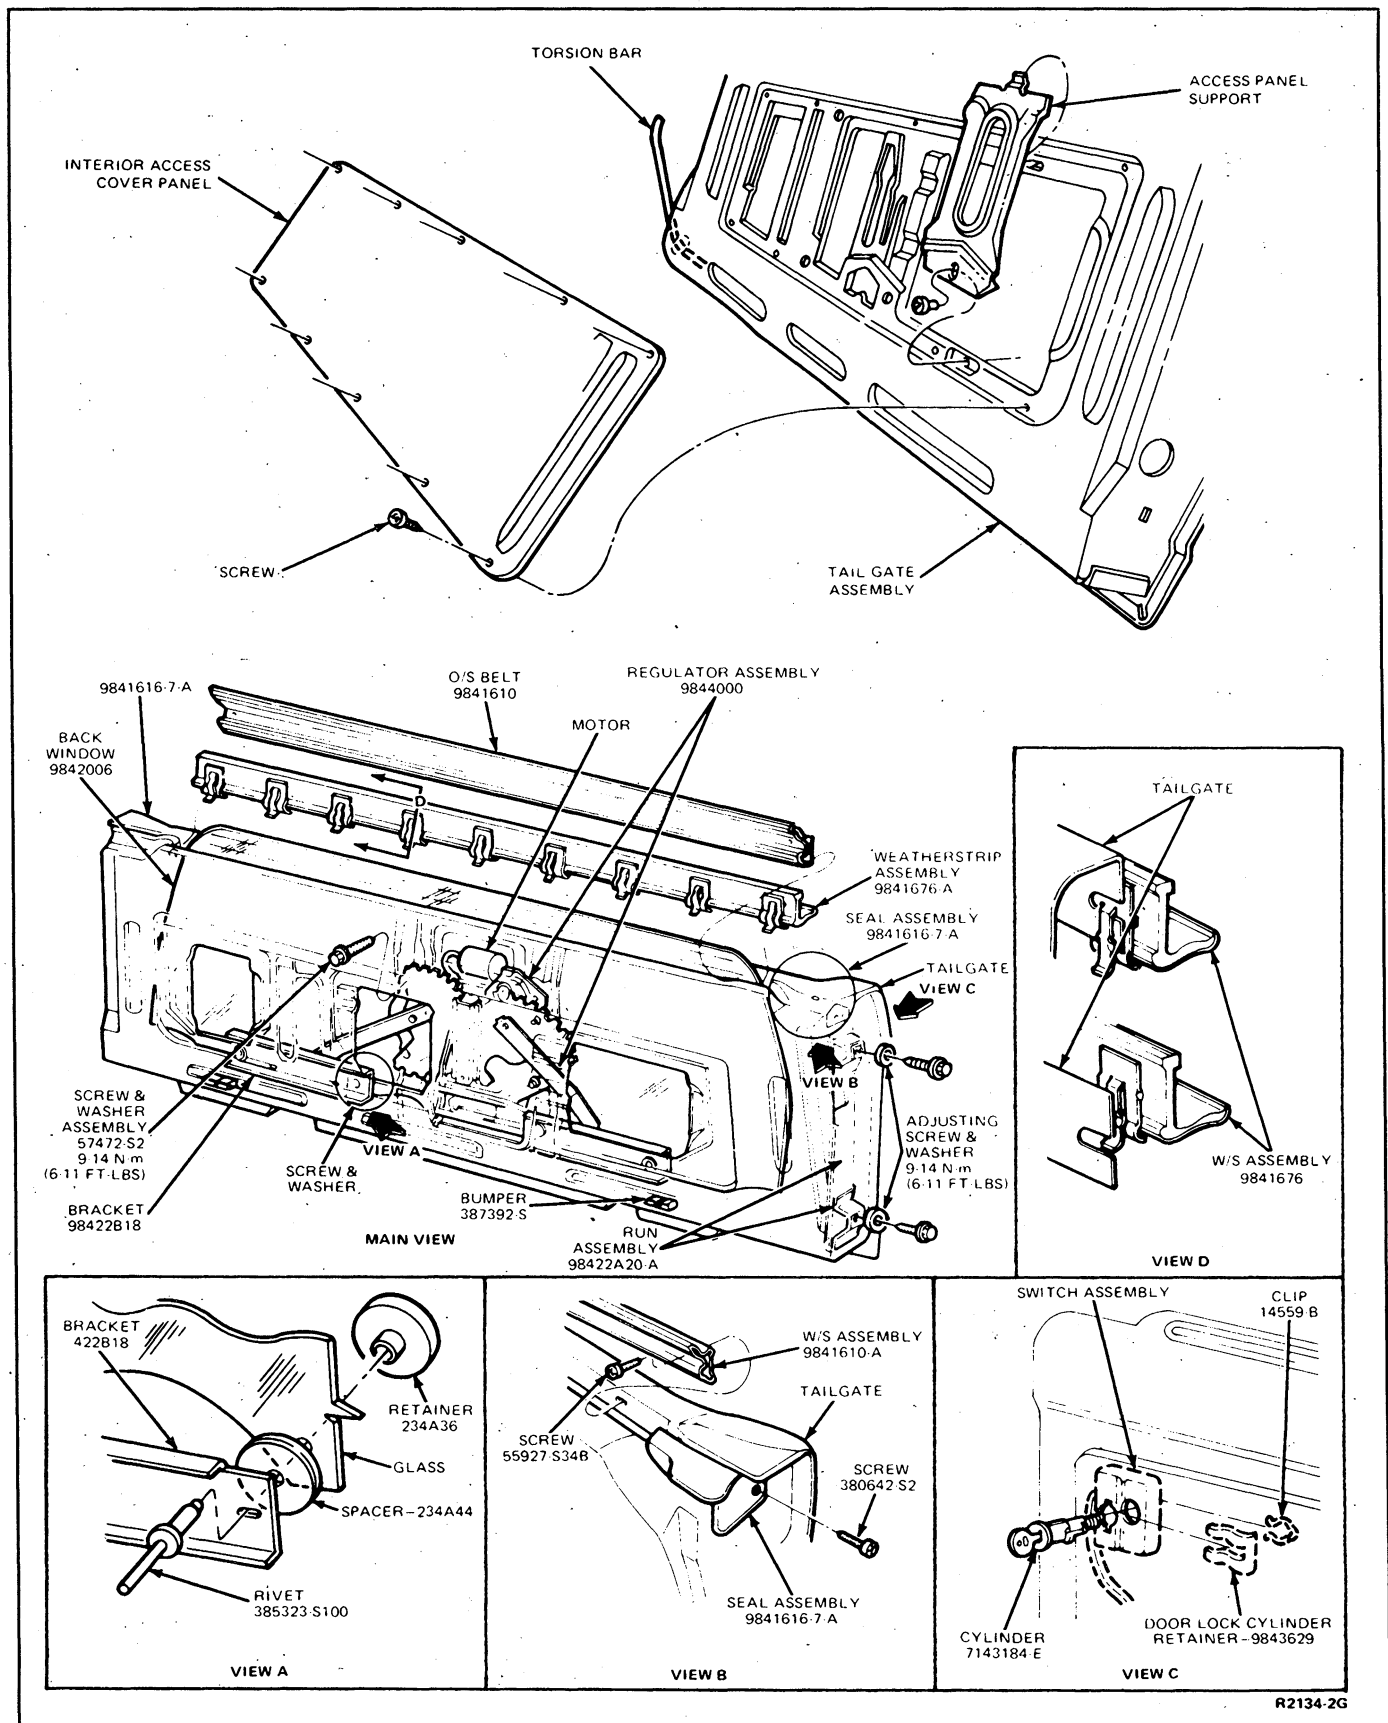

FIG. 4 Tailgate Window Mechanism and Belt Weatherstrips—Bronco
1. Install switch on lock cylinder and install clip (Fig. 4).
2. Disconnect motor wiring harness (Fig. 4).
1. Position electric motor in tailgate and secure to regulator (Fig. 4).
1. Position regulator in tailgate and secure with four screw and washer assemblies (Fig. 4). Tighten to 9-14 N·m (6-11 ft-lb).
3. Remove lock cylinder retainer (Fig. 4).